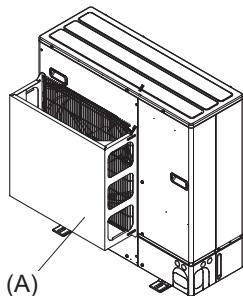
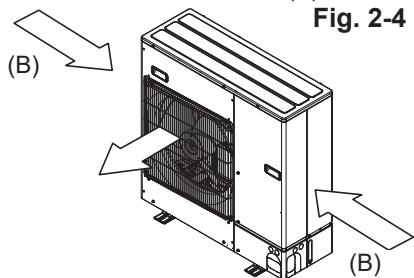

Fig. 2-4
Fig. 2-5
2. Install an optional air outlet guide and air guide if the unit is installed in a location where strong winds from a typhoon, etc. may directly enter the air outlet. (Fig. 2-4)
- (A) Air outlet guide
- (B) Wind direction
3. Position the unit so that the air outlet blows perpendicularly to the seasonal wind direction, if possible. (Fig. 2-5)
- (A) Air outlet